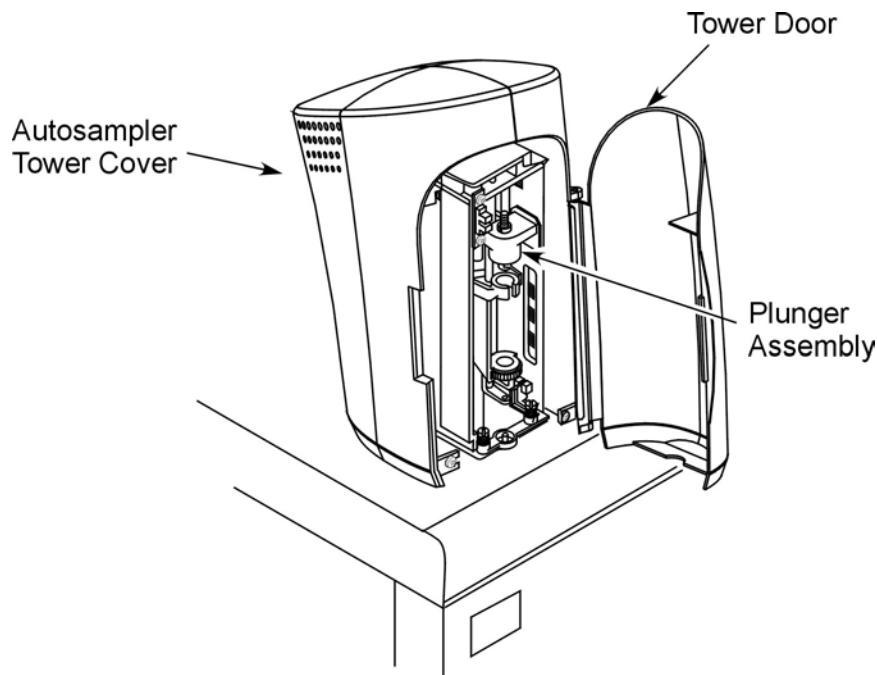

Figure 6. The autosampler tower in the “Park” position.
1. Before you install the syringe, move the autosampler tower so it faces the front of the instrument; this is called the “Park” position (see Figure 6).